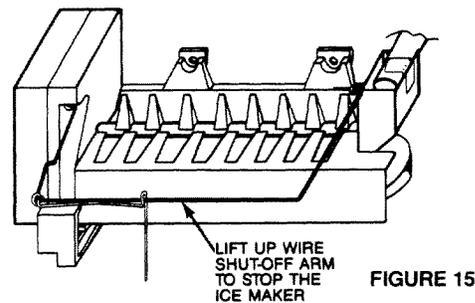

FIGURE 15
2. To stop ice production or to remove the ice bin: take hold of wire arm near black housing, and lift up. There will be an audible "click" when ice maker shuts off. The wire arm stays in the upper position. (See Fig. 15). As long as the arm is in this position, ice will not be made. The unit will continue to dispense cubes from the ice bin until all have been used.